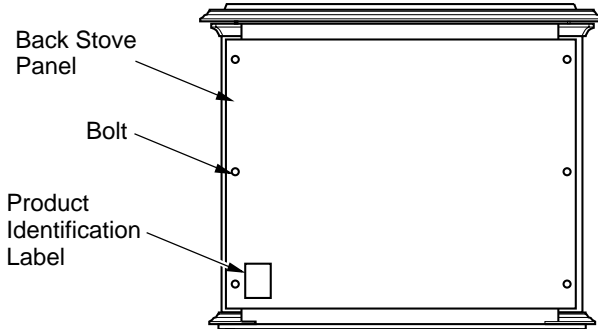

Figure 5 - Removing Back Panel
- Remove back panel from stove (see Figure 5). Use an adjustable wrench or a 10 mm socket. Remove six (6) bolts and washers. Keep bolts and washers to reattach back panel later.
4. If not already removed, remove back panel from assembled stove body (see Figure 5, page 8). Use an adjustable wrench or a 10 mm socket. Remove six (6) bolts and washers. Keep bolts and washers to reattach back panel later.